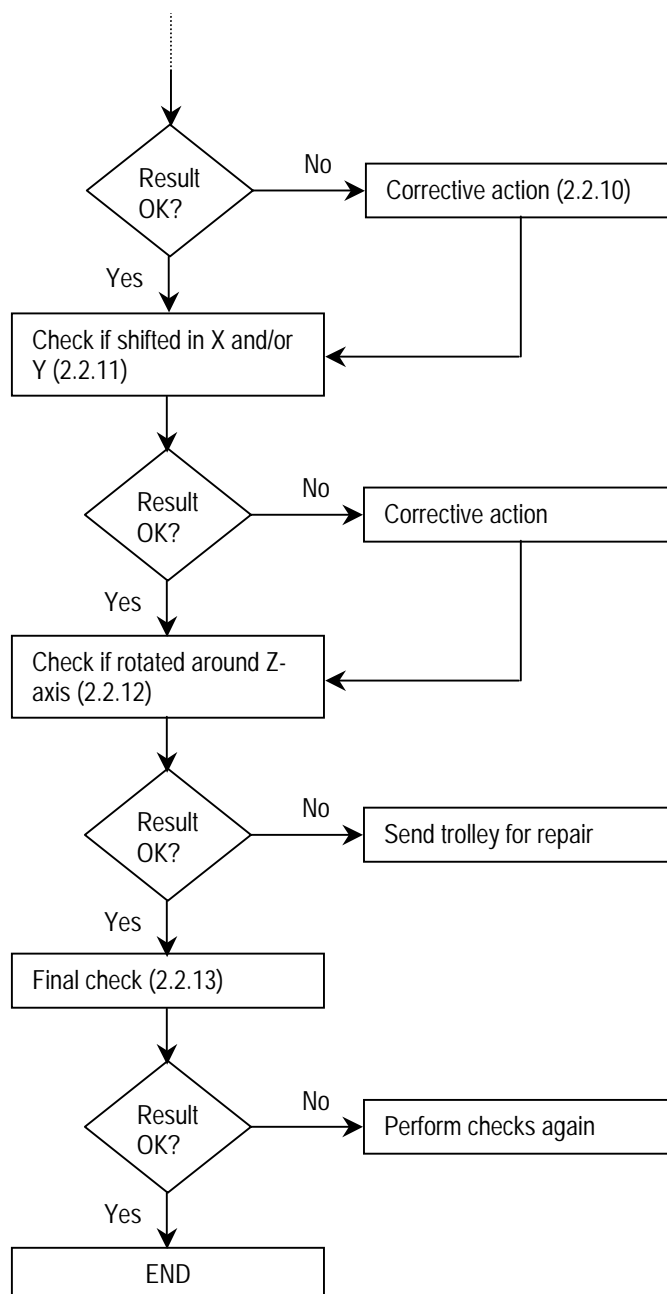

Figure 12
- "Loosen the tension of the vertical timing belts by releasing the upper strip where the timing belt pulleys are mounted (see Figure 12). Loosen the two bolts.